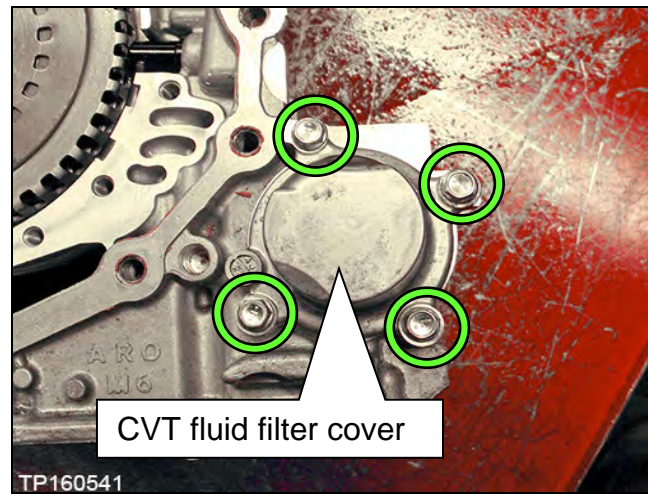

Figure 24B
- a. Remove the four (4) bolts and then remove the CVT fluid filter cover (Figure 24B).